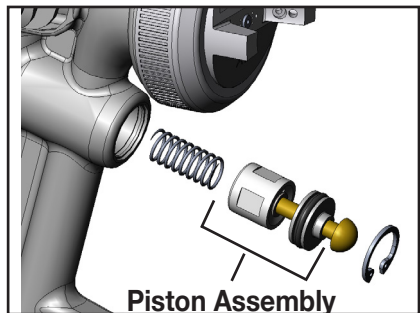

Figure 11: Air valve piston removal
- Unscrew the trigger spindle screws and remove the chrome trigger handle. (See Figure 11)